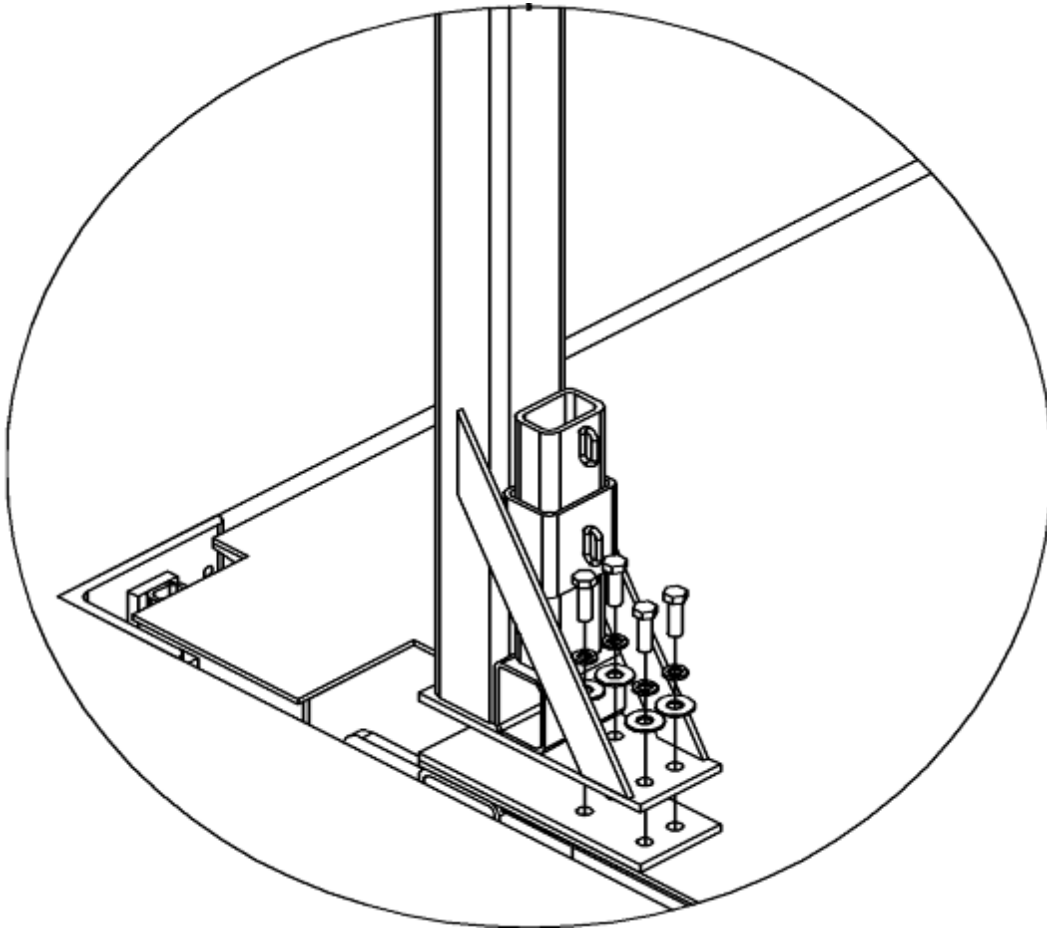

Figure 16 Attaching Canopy Posts – Typical (4) Places
E. ATTACHING THE CANOPY POSTS (Reference Figure 16)